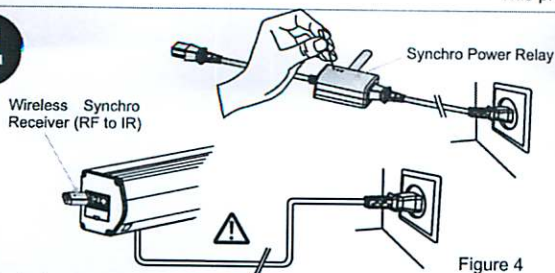

Figure 4
4. Ensure the wireless receiver is connected to the screen, press the receiver programming button by inserting a small plastic stick and the light will flash repeatedly (Figure 3). Then press the signal programming button (Figure 4), it means that the programming instructions will be synced to both devices, the receiver light will stop flashing and stay on once completed.